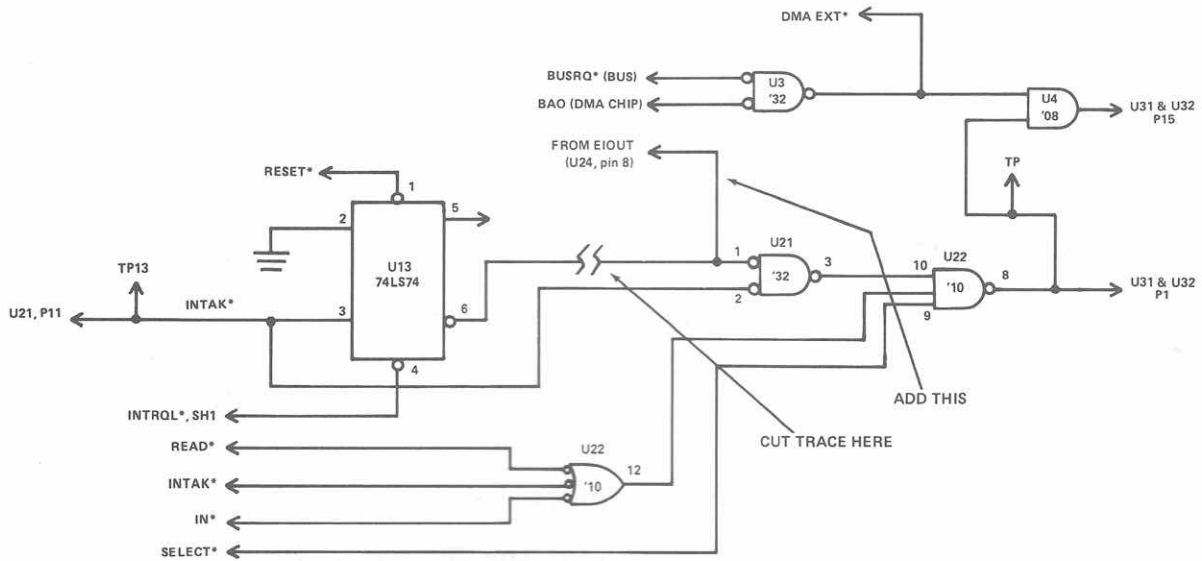

Figure 1. Interrupt Modification for CPU Board
3. Cut the following traces on the CPU Board and add the following jumper wires. Refer to Figures 1, 2, and 3.